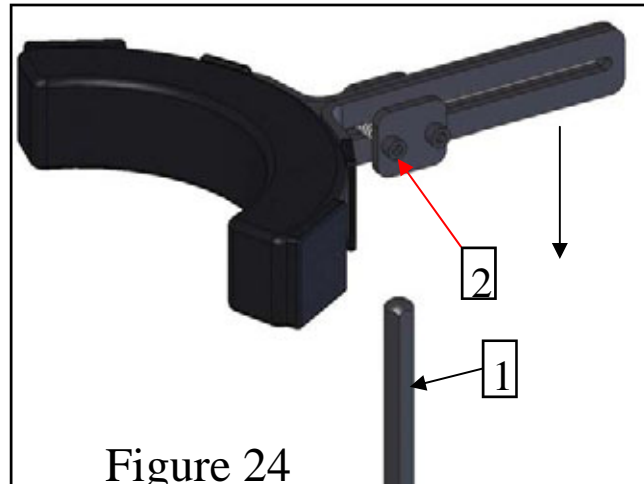

Figure 24
Refer to Figure 24.
2. Then, slip the Neck rest onto the top of the bar as shown in Figure 24.